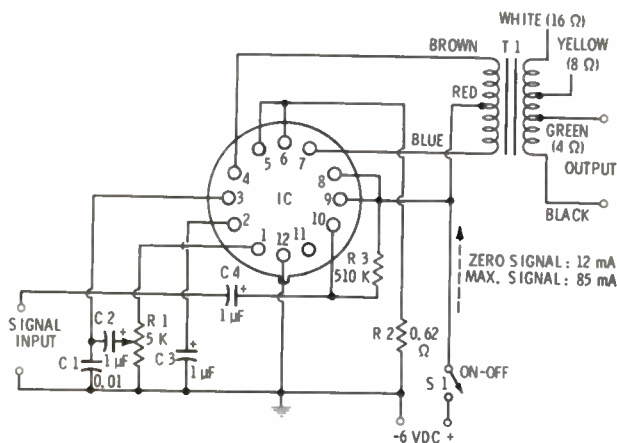

Fig. 5-3. Circuit of the quarter-watt audio amplifier.
Fig. 5-1 is an overall view of the completed amplifier with IC plugged-in and battery connected. Figs. 5-2A and B show layout of the components, and Fig. 5-3 is the circuit diagram.
In the $\frac{1}{4}$ -watt amplifier (compare Figs. 5-3 and 5-4), the input signal is applied to terminal 10 (base of transistor Q1), and the gain-control potentiometer (R1) is connected between terminal 1 (emitter of Q1) and ground. This makes an emitter follower out of Q1. Output from the potentiometer is applied to terminal 3 (base of Q2), which is one side of the phase inverter. The power output stage is connected push-pull: The emitters of Q6 and Q7 (terminals 5 and 6) are connected together and to 0.62-ohm emitter resistor R2, and the collectors (terminals 4 and 7) are connected to the outside
10. Wire the underside of the board (follow the wiring diagram in Fig. 5-3 and the pictorial diagram in Fig. 5-2B). Note that the bottom view of the IC Socket is given in the drawings and that terminal 12 is marked with a dot on the Augat socket. For wiring, use a thin, insulated, stranded hookup wire; thicker wire is too large for the closely spaced socket terminals. For portions of the wiring that require no insulation (such as jumpers between socket terminals, or the common bus), use solid, tinned, No. 22 wire. In wiring the transformer, follow the color coding of leads indicated in Fig. 5-3. This transformer has 4-, 8-, and 16-ohm outputs. The black and green secondary leads, shown in Fig. 5-3, provide 4-ohm output; for 8 ohms use black and yellow, and for 16 ohms use black and white. The unused leads should either be clipped off or rolled up and tucked to one side below the board.